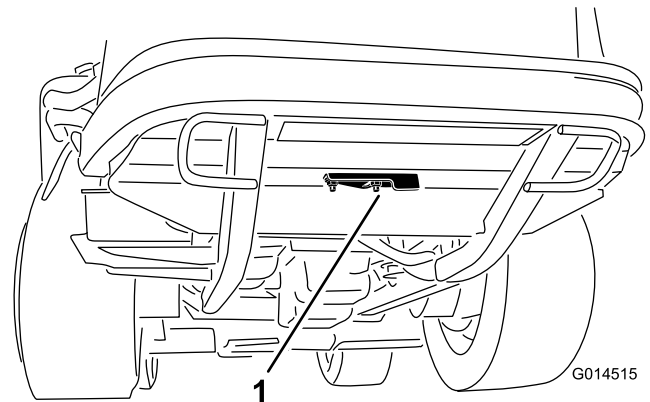

Figure 43
2. Loosen the flange nut securing the clean out cover to the underside of the rear frame (Figure 43). Rotate the cover to the side to expose the clean out hole in the frame.